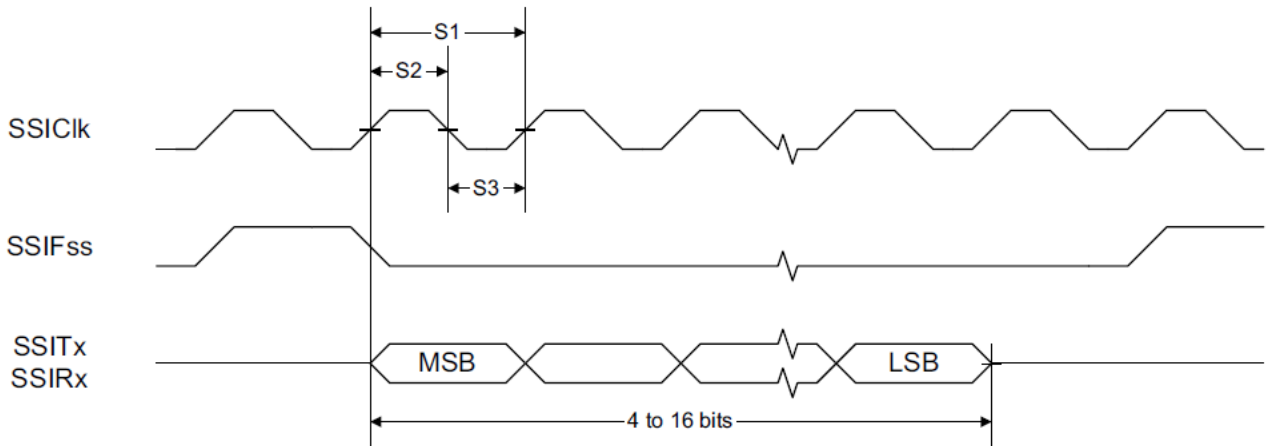
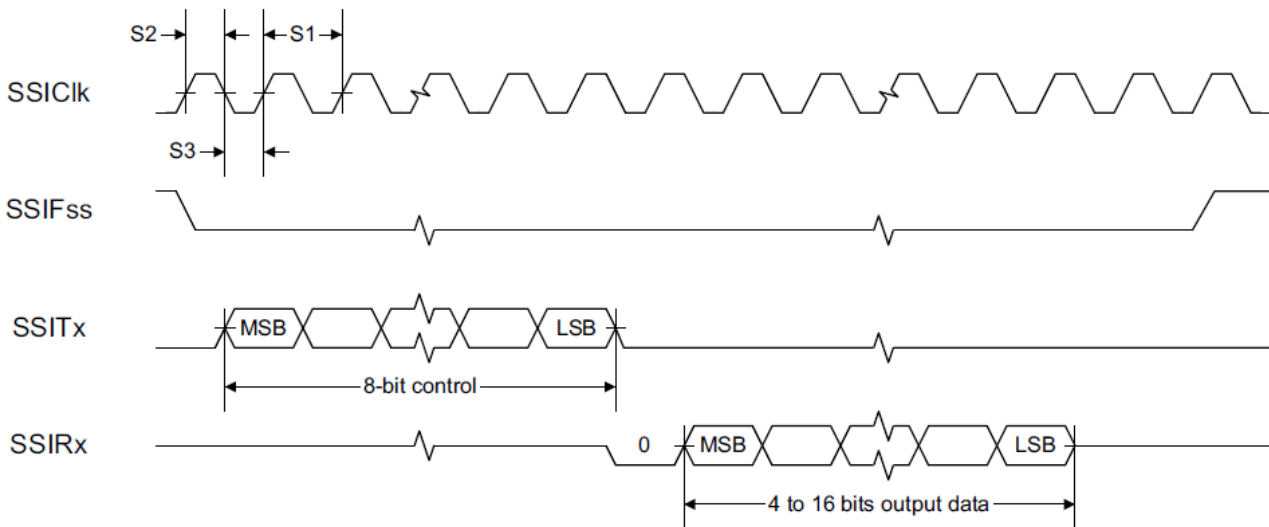
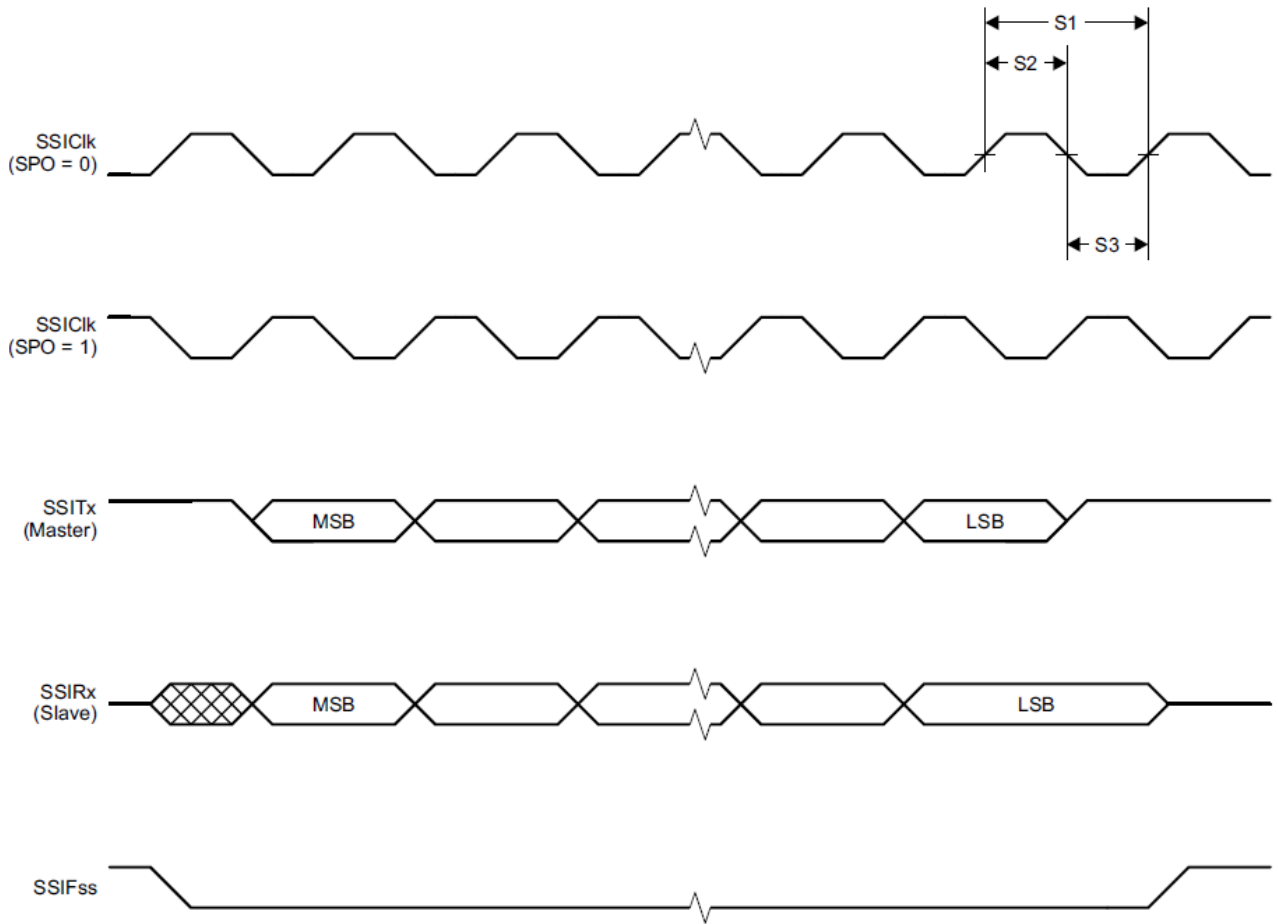

Figure 4-1. SSI Timing for TI Frame Format (FRF = 01), Single Transfer Timing Measurement
Figure 4-2. SSI Timing for MICROWIRE Frame Format (FRF = 10), Single Transfer
Figure 4-3. SSI Timing for SPI Frame Format (FRF = 00), With SPH = 1
- (1) Applications using RCOSC_LF as sleep timer must also consider the drift in frequency caused by a change in temperature.
- (2) $T_A = -40^{\circ}$ C to 85° C, VDDS = 1.8 V to 3.8 V, unless otherwise noted.
- (3) $T_c = 25^{\circ}$ C, $V_{DD5} = 3.0$ V, unless otherwise noted. Device operating as SLAVE. For SSI MASTER operation, see Section 4.22.
- (4) Refer to SSI timing diagrams Figure 4-1, Figure 4-2, and Figure 4-3.
(1) Device operating as MASTER. For SSI SLAVE operation, see Section 4.21.
(2) (4) Refer to SSI timing diagrams Figure 4-1, Figure 4-2, and Figure 4-3.